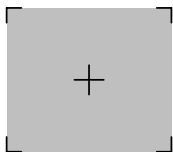

Figure 2-10 *Laser Aiming Pattern*
3. When the digital scanner senses movement, in its default **Auto Aim** trigger mode, it projects a red laser aiming pattern (shown in Figure 2-10) which allows positioning the bar code or object within the field of view. (To turn off the default **Auto Aim** trigger mode, see Trigger Mode on page 4-8.)